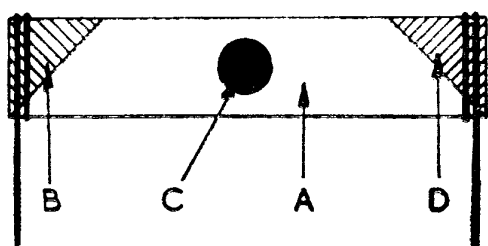

FIG. 2
The resistance is determined by the respective colours of "Body" (A) "End" (B) and "Dot" (C), see Fig. 2. The colour of the "body" determines the first figure of the resistance value, the colour of the "end" the second figure, and that of the "dot" the number of ciphers following the second figure. In addition to the above, the resistors having a closer tolerance than $\pm 20\%$ have a second "end" indication (D).